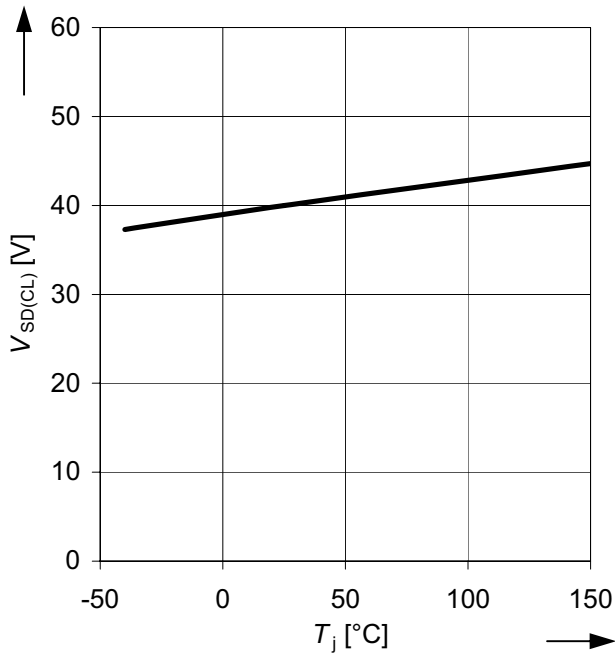

Figure 36 Source to Drain Smart Clamping voltage $V_{SD(CL)}$ as a function of the junction temperature T_j
4) See Figure 36 for typical temperature dependency.